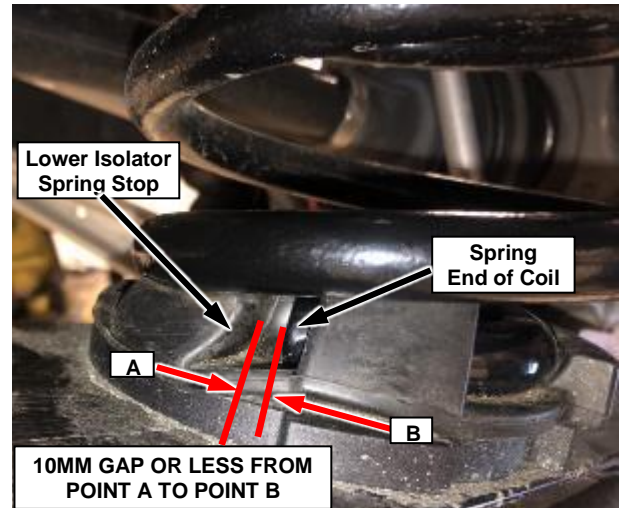

Figure 1 – Check Coil Spring to Isolator Gap at Smallest Point
- Gap from the end of coil to isolator spring stop (Figures 1 and 2)
NOTE: If the spring stop is slightly deformed, measure the area of the smallest gap. See A-B measurement in Figure 1.